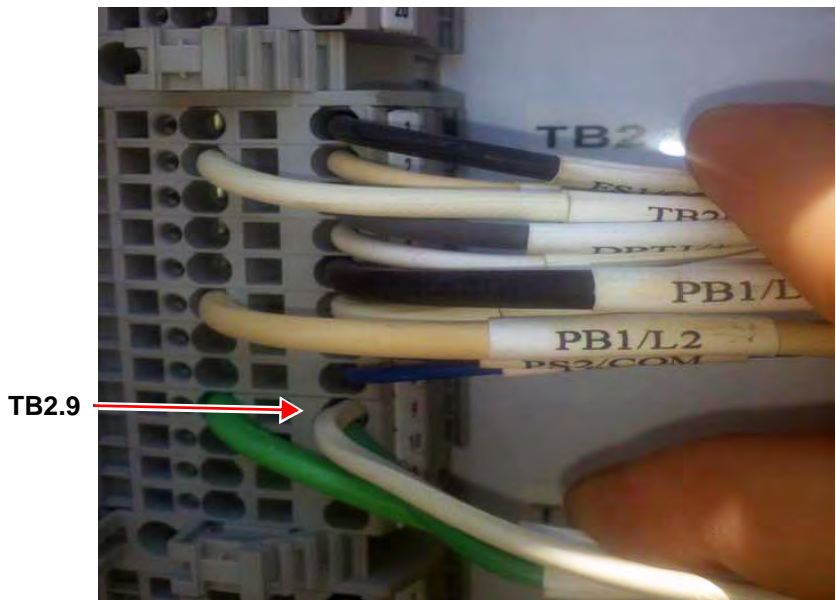

Figure 12: Connection point 9 in Terminal Block 2
10. Connect the white wire to TB2.9 (See Figure 12). Ground the green wire to a free earth ground terminal. Jumper TB18.2 to an earth ground terminal.